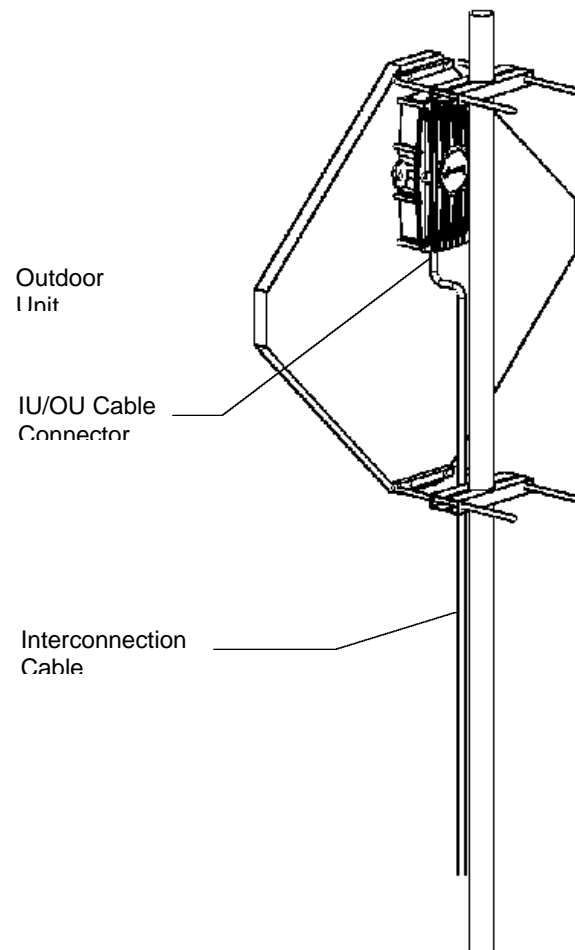

Figure 9. Outdoor Unit Mounted on Antenna.
1.	Connect the interconnection cable to the connector on the base of the Outdoor Unit (see Figure 9).